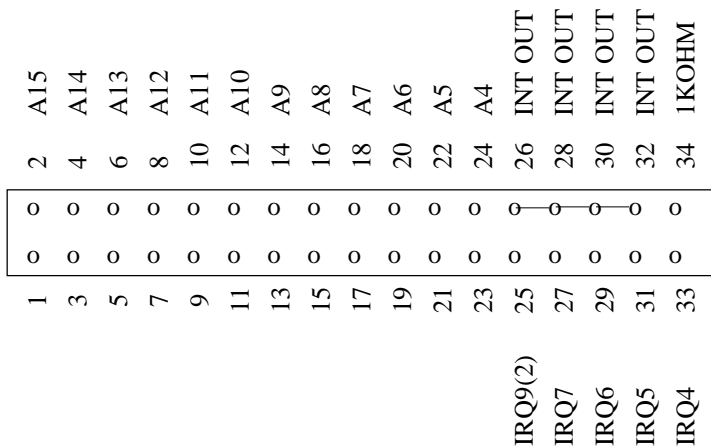

Figure 3. Jumper block JP1 configuration for base address and interrupt selection.
The card address is set by installing appropriate jumpers on JP1, pins 1 thru 24, as shown in Fig. 3. An uninstalled jumper for a given address bit sets the bit to 0 (false) and an installed jumper sets the bit equal to 1 (true). Addresses A4 thru A15 are jumper selectable for defining the *base address* of the card from 0000H to FFF0H on integral 10H boundaries, where H denotes a hexadecimal number. To assign a base address of 3040H, for example, install jumpers JP1-A13, JP1-A12, and JP1-A6. Pins 25 thru 34 are used to configure the interrupt connections, if interrupts are used, as described in the Section II.D.
1) Pins JP1-26, JP1-28, JP1-30 and JP1-32 (INT OUT) are connected and have the composite interrupt signal from the analog converters (see circuit diagram in Appendix). Any one of these can be jumpered to a single desired interrupt, IRQ4 thru IRQ9, of JP1 shown in Fig. 3. This connection causes the interrupt selected to be activated when an end-of-conversion occurs from either analog converter. The interrupt status can be checked to determine which converter interrupt is active, as described in Section III.